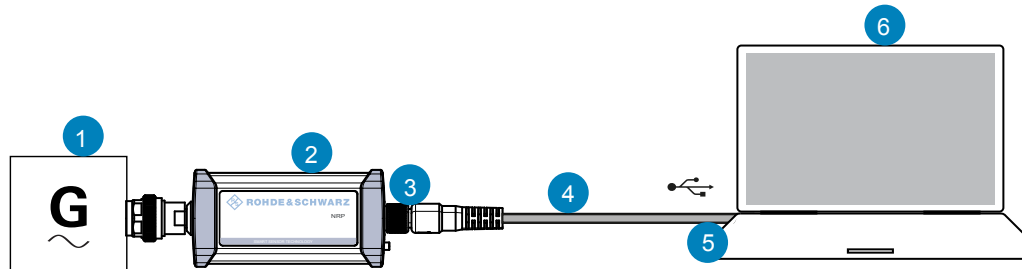

Figure 4-1: Configuration with a NRP-ZKU
1. Connect the cables as shown in Figure 4-1 :